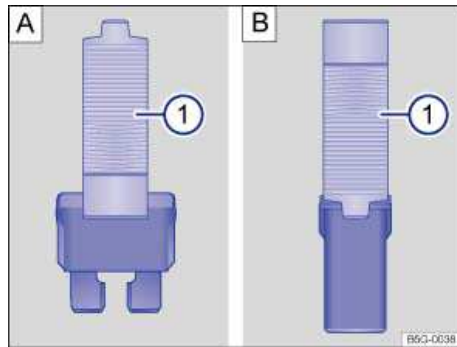

Fig. 185 Removing or installing a blade fuse with the plastic tweezers: A: Blade fuse. B: JCASE® fuse.
- Depending on the type of fuse, slide the tweezers ⇒ fig. 185 A \(1\) or B \(1\) onto the fuse from the side.